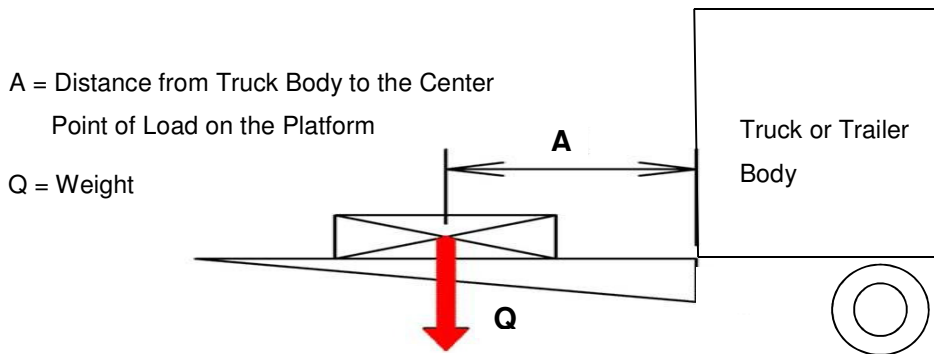

Figure 2: Center Point of Load
Every PALFINGER Liftgate is rated up to a maximum load. The point of maximum load is rated at a defined distance. The center point of maximum load is at 24" from start of Truck or Trailer Body, as shown in Figure 2.
- When unloading, the rebound clearance of the vehicle is not compensated; therefore the platform must be re-adjusted (opened). Otherwise the tip of the platform can be overloaded, risk of serious damage is possible (Fig. 2)